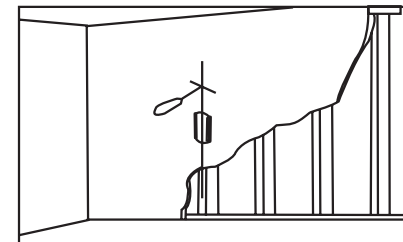

Fig 2b
Using a awl or nail to make where the nails are located, as shown as fig.2b. Distance between two nails for fixing wall mount must not less than 12". Pre-drill these holes with a 5mm drill bit to at least 40mm in deep hole. Please make sure these holes are level and located at center. Use wall mount as a template to mark the location of other three holes and drill the same holes. Fix the wall mount to the wall with 4 long bolts(H) and washers(J).